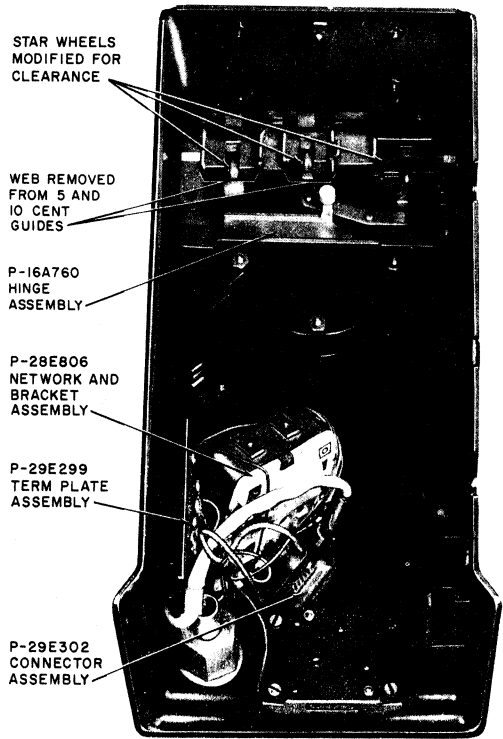

Fig. 2—Upper Housing With Gong Signal and Chute Assembly Removed
2.02 The starwheels on rear of coin guide have been cut off to provide clearance for adding dummy chute (Fig. 2). Die cast webs across 5 and 10 cent guides have also been removed.